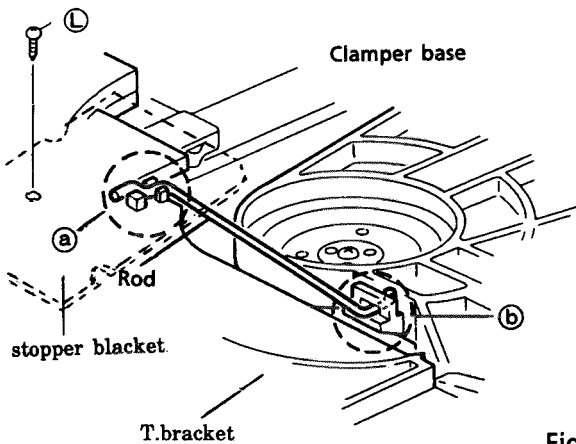

Fig. 20
2. Remove the screw ① holding the stopper bracket.(See Fig.20) --- (U.S.A and CANADA only)
3. Remove the rod from both ends' hooks which are secured on T.Bracket ③ and clamber base ②. [See Fig. 20]